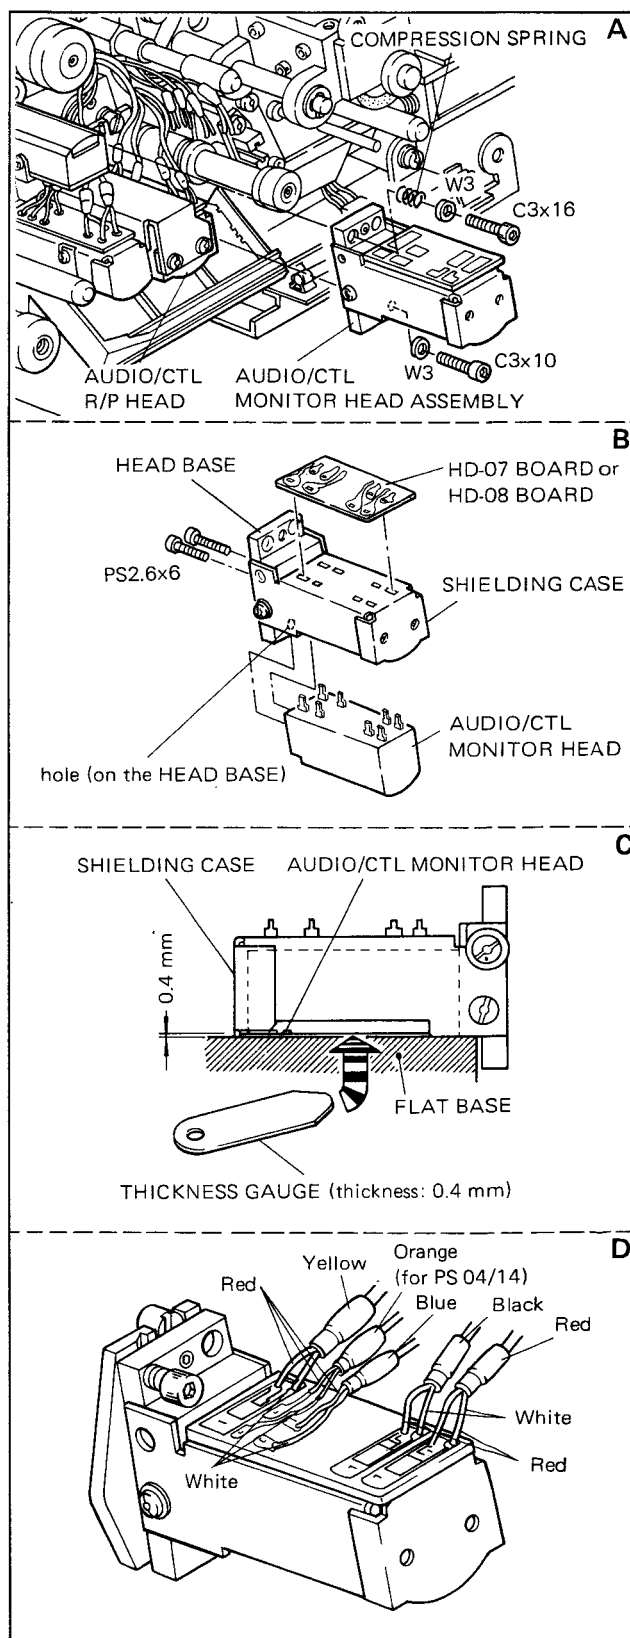

Fig. 3-57. Audio/CTL Monitor Head Replacement
2. Remove the two screws shown in Fig. 3-57-A, and remove the monitor head assembly.
Note: When the shielding case has been removed, fix the shielding case to the head base lightly and place the monitor head assembly as shown in Fig. 3-57-C onto a flat table, insert a thickness gauge with a thickness of 0.4 mm between the head and the flat table, depress the shielding case lightly, and tighten the previously lightly tightened screws securely.
7. Install the monitor head assembly so that the hole shown in Fig. 3-57-B is placed onto the pin on the head table.
8. Solder the leads to the head referring to Fig. 3-57-D.